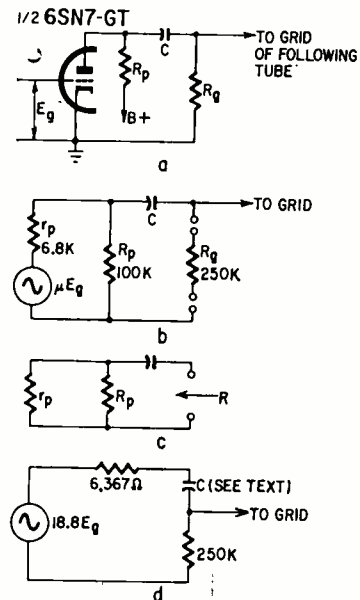

Fig. 4—Resistance-coupled amplifier stage. b—Modified circuit. c—Calculation of the series resistance. d—Equivalent circuit.
To illustrate this method, let's consider the amplifier stage shown in Fig. 4-a, consisting of a triode tube (half a
6SN7) connected in the conventional way. If the tube is replaced by an equivalent generator, the circuit can be redrawn as in Fig. 4-b. The values of  $\mu$  (20) and of  $r_p$  (6,800) we obtain from a tube manual. For simplicity, we assume that the amplifier operates in the mid-frequency range where the reactance of capacitor C is negligible.
Next we remove the generator from the circuit, replace it with a connecting wire, then calculate the circuit resistance as it appears to the load (Fig. 4-c). This computation is made as in previous examples:
made rapidly. The final circuit is shown in Fig. 4-d.